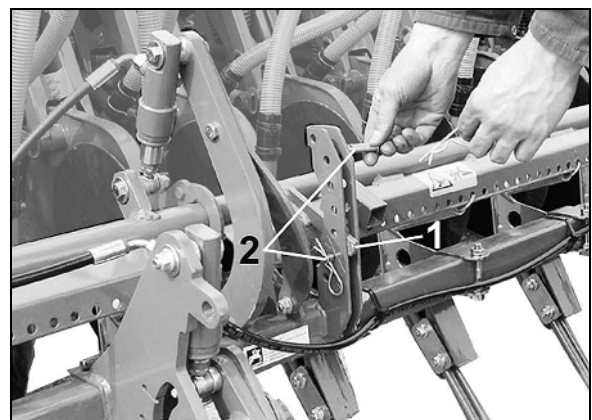

Fig. 96
3. Insert each one pin (Fig. 96/2) into the setting segment above and below the lever and secure using clip pins.